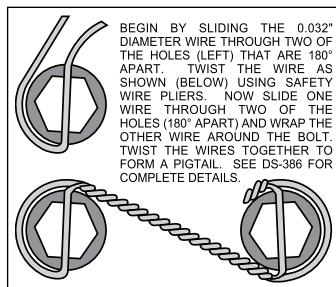

Figure 4. Safety Wire Diagram
Orient the rotor (16) and the hat (17) as shown in Figure 1 and Photo 3. Attach rotor to hat using bolts (18) and washers (19). Apply red Loctite® 271 to the bolt threads and torque to 155 in-lb using a criss-cross pattern. For an added measure of security, the bolts may be safety wired using standard 0.032 inch diameter stainless steel safety wire as shown in Figure 4. Please refer to Wilwood's data sheet DS-386 (available at www.wilwood.com/Pdf/DataSheets/ds386.pdf) for complete safety wire installation instructions.